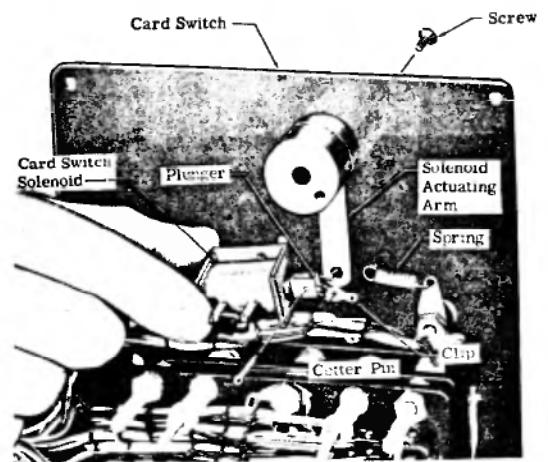

Figure 19 - Replacing Card Switch Solenoid
2. Insert two .125 inch diameter (1/8 inch diameter) pins or drill shanks into the switch plate holes A-1 and L-1 to retain the code card. (See figure 19).
plate holes when the micro switch actuates (an audible CLICK will be heard). If adjustment is necessary, turn the adjustment screw. (See figure 19) until alignment is correct.
6.26 Replacement of Card Switch Solenoid. (See Figure 19). Unsolder leads to terminals on solenoid. Disengage spring from clip on plunger and remove cotter pin and clip. Remove screws from face of panel and disengage solenoid from solenoid actuating arm. Install new solenoid and reconnect associated parts in the reverse order of removal.